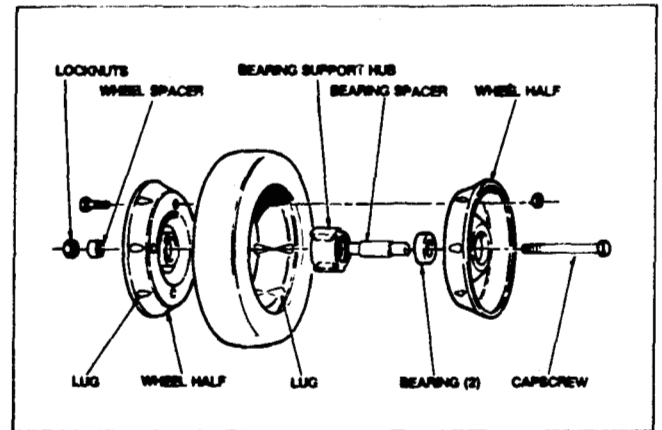

Figure 17
1. Stop the engine and remove the capscrew, wheel spacer, the locknut securing the wheel to the pivot arm. See Figure 17.
2. Separate the wheel halves from the tire by removing the flange capscrews and locknuts. See Figure 17.
1. Position the tire on the wheel half, aligning lugs on each. See Figure 17.